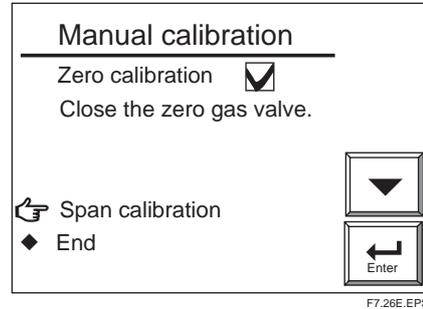

Figure 7.26 Zero Calibration Complete Display
- (9) After the measured value has stabilized, press the [Enter] key to display the “zero-calibration complete” display shown in Figure 7.26. At this point, the measured value is corrected to equal the zero-gas concentration setting. Close the zero-gas flow valve. The valve lock-nut should be tightened completely so that the zero gas does not leak.
- (10) Select “End” in the display as shown in Figure 7.26. An oxygen concentration trend graph (with the oxygen concentration being measured) appears and “HOLD TIME” then flashes. This time is referred to as the output-stabilize time. If the “HOLD TIME” has been set with the output-hold setting, the analog output remains held (refer to Section 8.2, “Output Hold Setting,” later in this manual). Manual calibration is completed when the preset output-stabilize time elapses. This output-stabilized time is set to 10 minutes at the factory before shipment. If you press the [Enter] or [Return] key within the output-stabilize time, manual calibration is then completed.